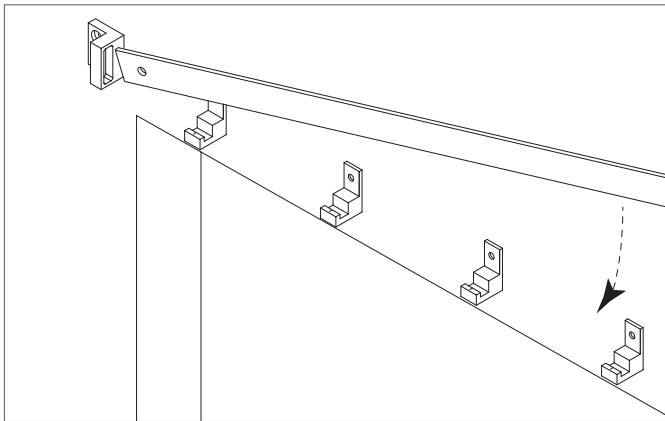

Figure 7
9. Install the track at an angle, inserting the end of the track into the end bracket and laying the track in the groove of the center spacer brackets (Figure 7).